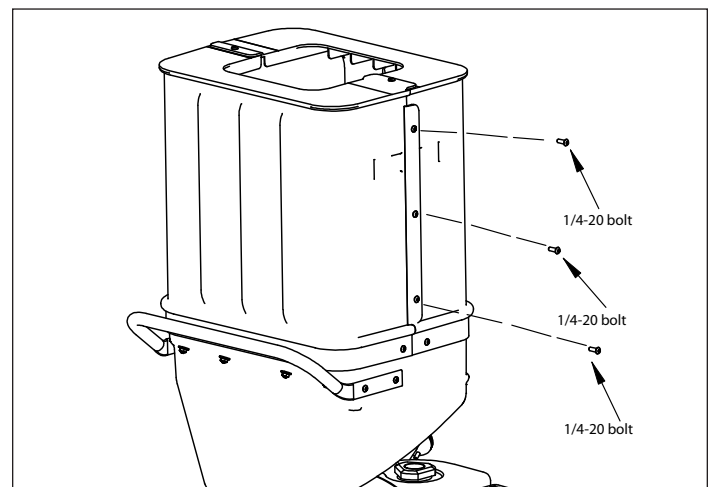

FIGURE 6
- 5) Place a 1/4-20 x 3/4 bolt (1960507) in each of the three holes along the two seams of the joined hopper extension halves. Secure each bolt with a flat washer and flange nut. **DO NOT fully tighten. SEE FIGURE 6**